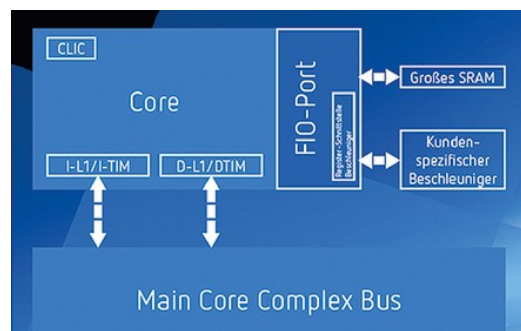

Figure 1. The FIO port tightly coupled to the processor core enables low-latency transfers to/from the core from/to memory or hardware accelerators.
- a fast I/O port, called Fast I/O or FIO for short. This is tightly coupled to the core and enables core-to-memory and low-latency accelerator operations. The FIO port can also be used to incorporate larger SRAM as well as custom accelerators via the accelerator register interface (**Figure 1**).